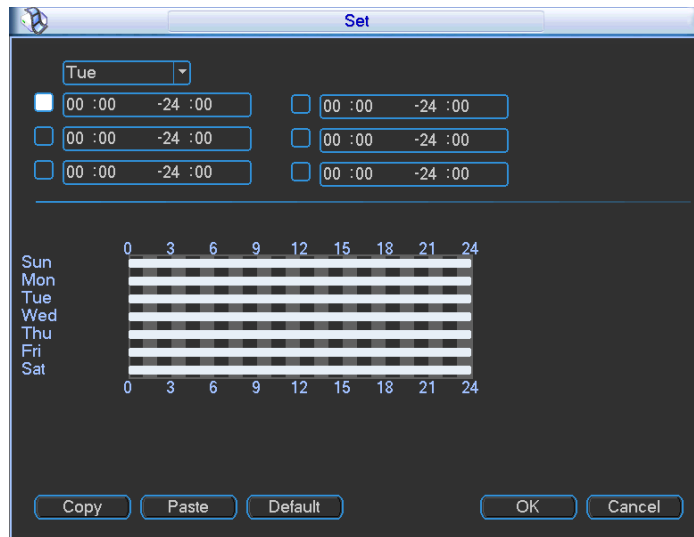
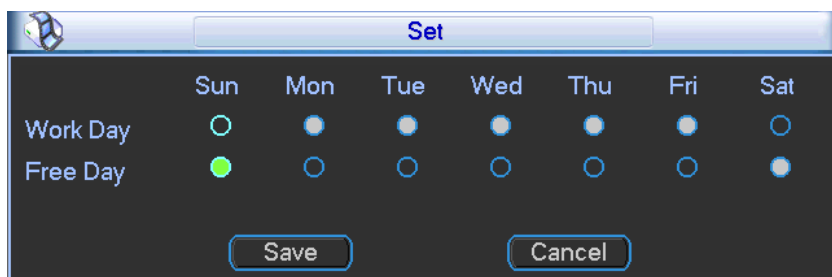

Figure 3-59
Figure 3-60
- Period: Click set button, you can see an interface is shown as in Figure 3-59. Here you can set for business day and non-business day. In Figure 3-59 click set button, you can see an interface is shown as in Figure 3-60. Here you can set your own setup for business day and non-business day.